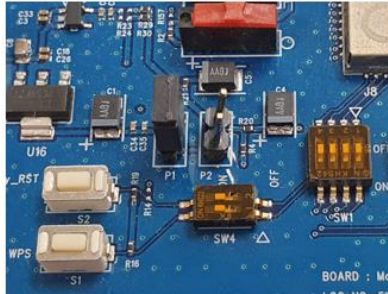

Figure 51. Set up DA16200 EVB jumper
2. Open the jumpers (P2) of the power line on the DA16200 EVB to disconnect the USB power and source from the Pro board only, as shown in Figure 51.